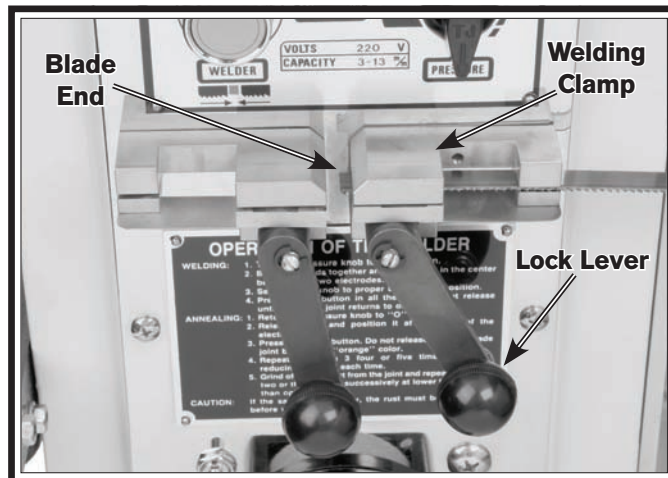

Figure 31. Blade end properly position in welding clamp and locked in place.
6. Position the back of one blade end evenly against the back of the welding clamp so that the end is midway between the two clamps, then rotate the lock lever as far up as possible to hold the blade end in place (see **Figure 31**).